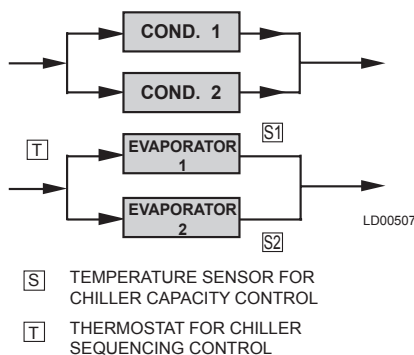

FIG. 1 – PARALLEL EVAPORATORS
**Parallel Arrangement** (Refer to Fig. 1) – Chillers may be applied in multiples with chilled and condenser water circuits connected in parallel between the units. Fig. 1 represents a parallel arrangement with two chillers. Parallel chiller arrangements may consist of equally or unequally sized units. When multiple units are in operation, they will load and unload at equal percentages of design full-load for the chiller.